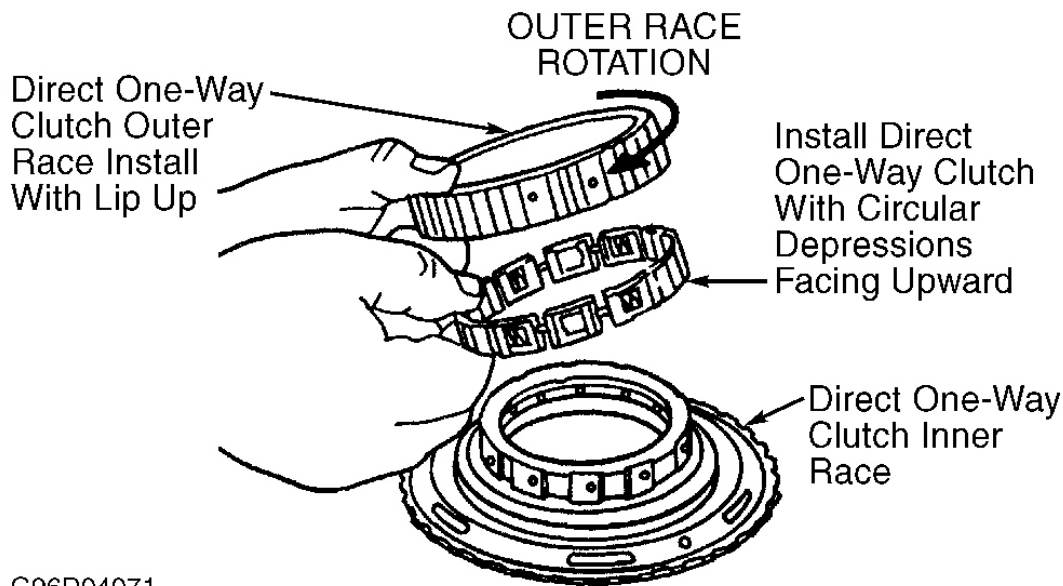

Fig. 28: Direct One-Way Clutch Rotation
Disassemble, clean and inspect direct one-way clutch and inner and outer races. Direct one-way clutch race should rotate clockwise only. See **Fig. 28**. Inspect intersplines of direct clutch friction plates. If signs of wear is present, replace friction plates. Ensure direct clutch piston check ball moves freely.
2. Install one-way clutch on direct clutch, with clutch lip facing down and lip on outer race facing up. Outer race should turn clockwise and lock counterclockwise when direct clutch is facing up. See **Fig. 28** . Install direct and intermediate clutch hub "O" ring seals on hub.